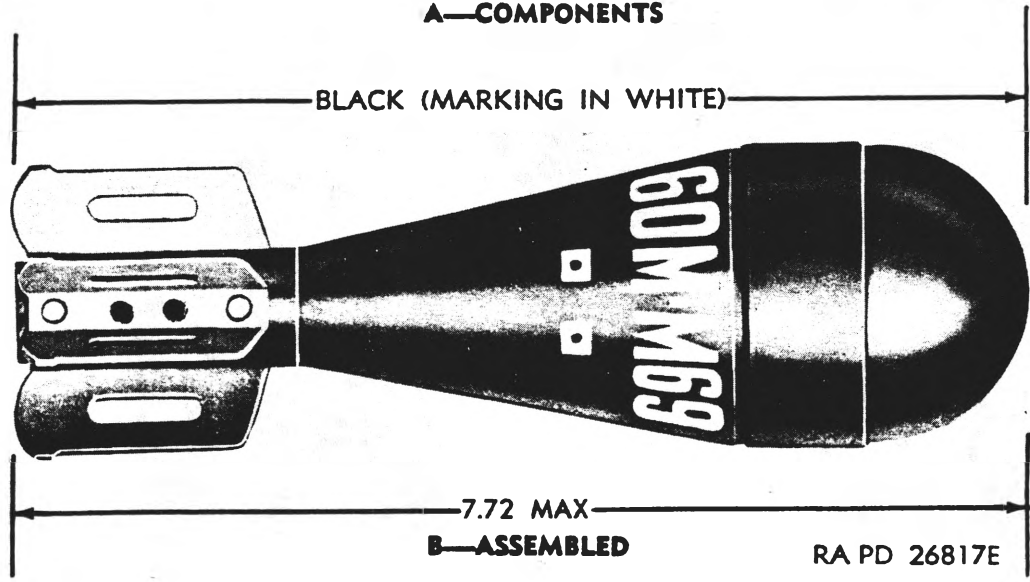

Figure 5. Projectile, 60 millimeter: training, M69.
*a. General.* This projectile (fig. 5) is provided for training in loading and firing the mortar. The projectile without ignition cartridge is completely inert and has no fuze. It consists of a cast-iron pear-shaped body and is assembled with fin assembly M2 (modified) or M5. No propellant increment charges are used with this training projectile. The ignition cartridge M4 or the combination of ignition cartridge M5A1 and percussion primer M32 is used in firing the projectile. Unlike other ammunition for the mortar, the four components are issued separately to facilitate replacement of damaged, wornout, or expended parts. Ten training projectiles and accessories are packed in an equipment training kit for field use. To overcome difficulties encountered in extracting fired ignition cartridges M4 after firing the round, modification of the fin assembly M2 (when this service-type fin is used) is authorized for field